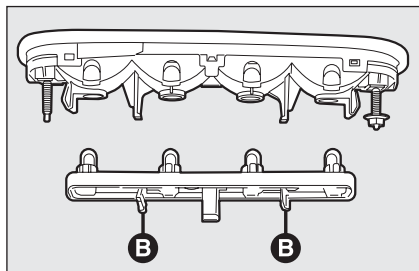

fig. 32
- ☐ press the tabs **B**-fig. 32 and remove the bulb holder;